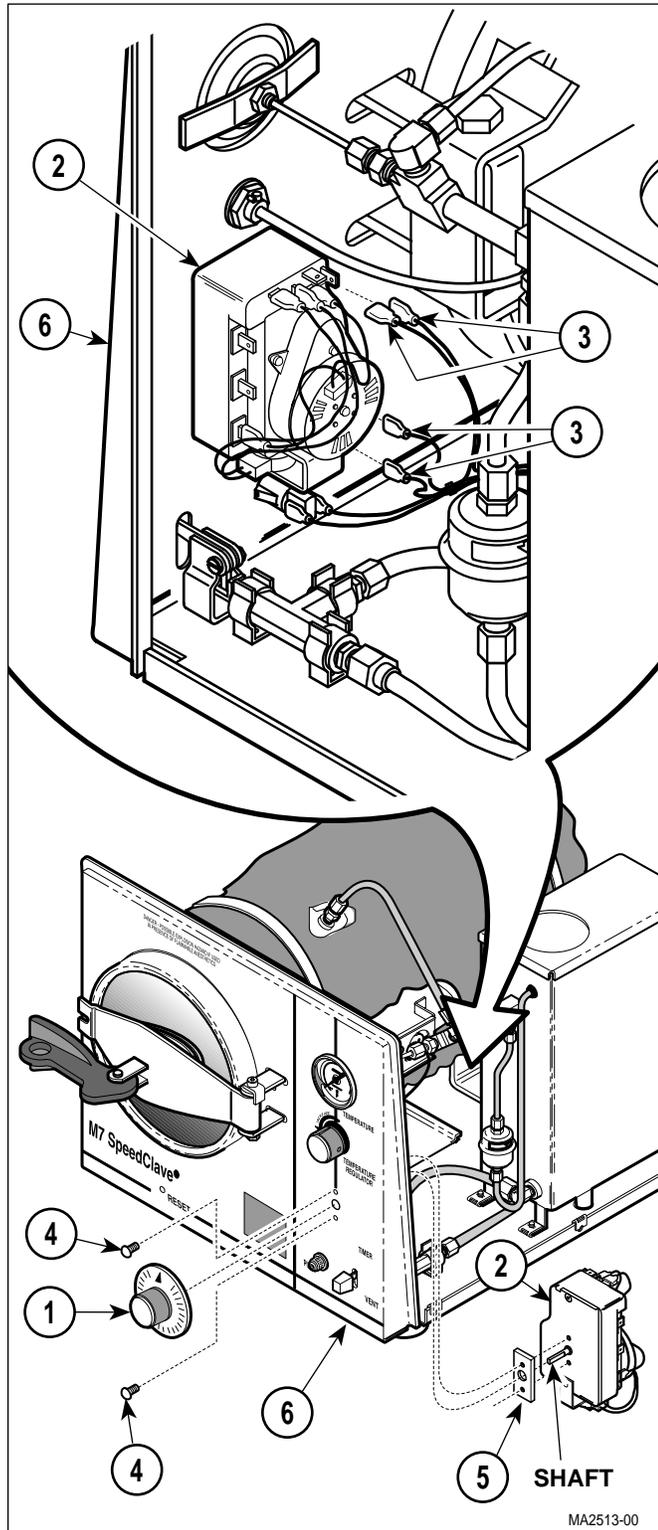

Figure 4-2. Timer Assembly Removal / Installation
- (1) Remove cover assembly (Refer to para 4.2).
- (2) Remove the timer knob (1, Figure 4-2) from shaft of timer assembly (2) by pulling straight out on timer knob.
- (3) Tag and disconnect four wires (3) from terminals of timer assembly (2).